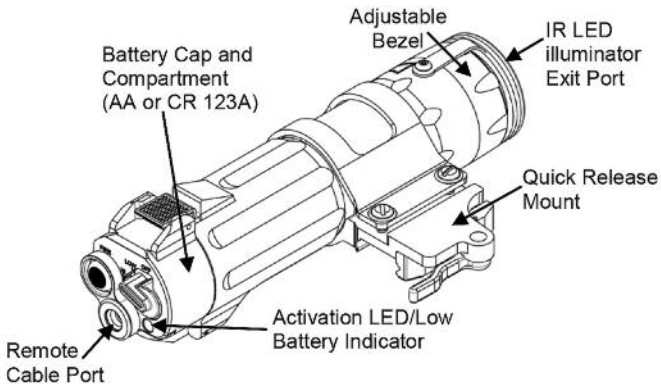

Figure 2-1 SPIR Features
The SPIR is a Class I device that features infrared (IR) light emitting diode (LED) illuminator for use with a NVD. The modes of operation include: Off, HI - high power, and LOW - low power. Figure 2-1 identifies the distinguishing parts of the SPIR. Table 2-1 and Table 2-2 provide performance specifications.